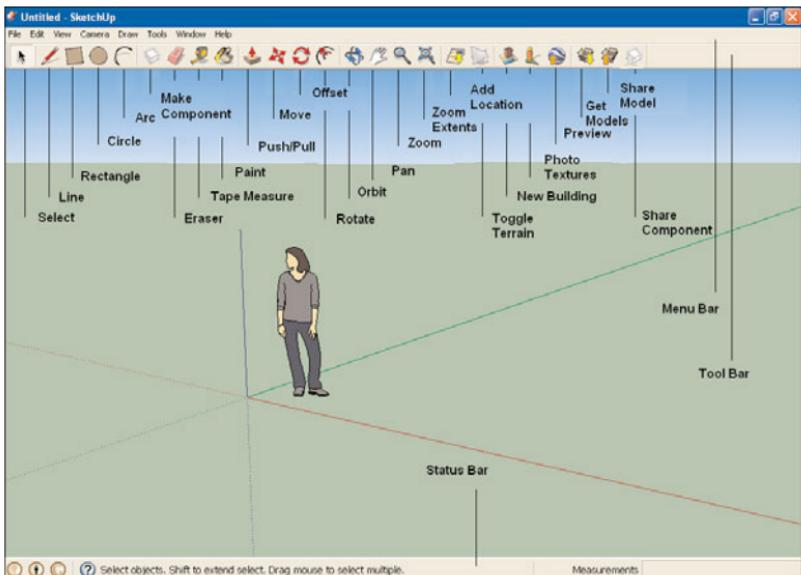

FIGURE 2.8 The parts of SketchUp.
As with most applications, you need to become familiar with the basic elements. Let's take a look at the various parts of SketchUp, as shown in Figure 2.8.
Note that by default, SketchUp shows only its Getting Started toolbar, which is the toolbar you see in Figure 2.8. To see the full tool set, select the **View** menu, then the **Toolbars** item, then the **Large Tool Set** menu item.
- ▶ **The toolbar**—Includes various drawing tools, as you can see labeled in Figure 2.8.